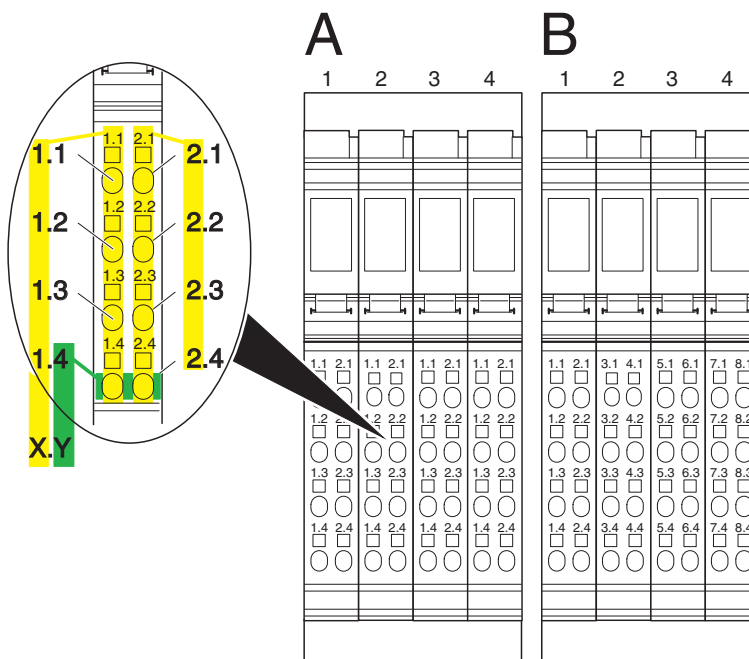

Figure 7-6 Terminal point numbering
The slots (connectors) on a base are numbered consecutively. This numbering is **not** indicated on the terminal (shown above the terminals in Figure 7-6).
**1 Terminal point numbering by connector (detail A in Figure 7-6):**
**2 Terminal point numbering by channel (detail B in Figure 7-6):**